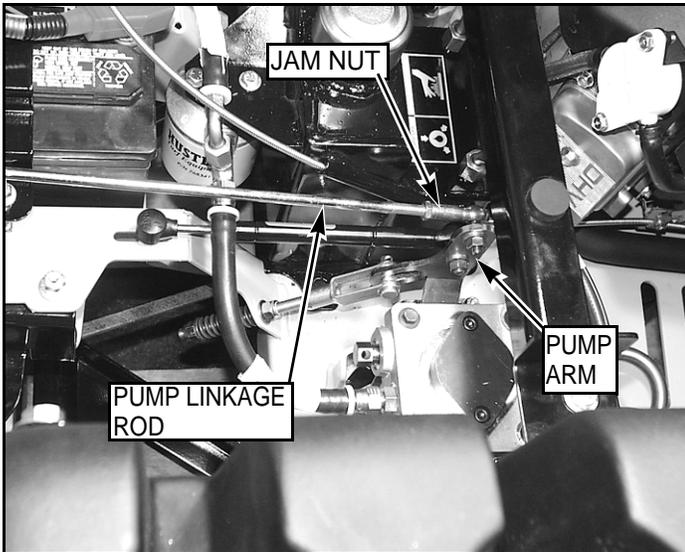

FIG. 20
Fine adjustment to the unit's steering is made with the adjustable pump linkage rods located between the control lever and pump arms FIG. 20.
4. If wheel(s) are rotating forward, loosen the jam nuts on the pump linkage rods and rotate the rod to lengthen the steering control linkage until the wheel(s) come to a stop FIG. 20. Repeat for the opposite side if necessary.
5. If wheel(s) are rotating in reverse then loosen the jam nuts on the pump linkage rods and rotate the rod to shorten the steering control linkage until the wheel(s) come to a stop FIG. 20. Repeat for the opposite side if necessary.